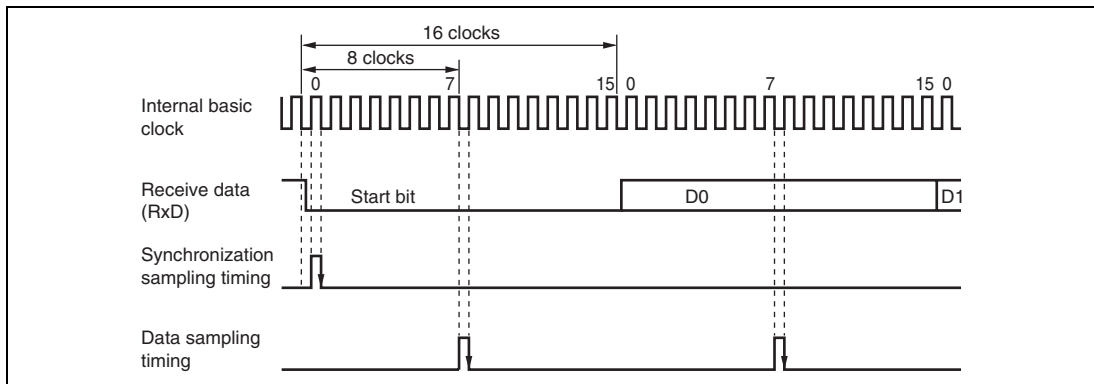

Figure 14.19 Receive Data Sampling Timing in Asynchronous Mode
In asynchronous mode, the SCI3 operates on a basic clock with a frequency of 14 times the transfer rate. In reception, the SCI3 samples the falling edge of the start bit using the basic clock, and performs internal synchronization. Receive data is latched internally at the rising edge of the 8th pulse of the basic clock as shown in figure 14.19. Thus, the reception margin in asynchronous mode is given by formula (1) below.